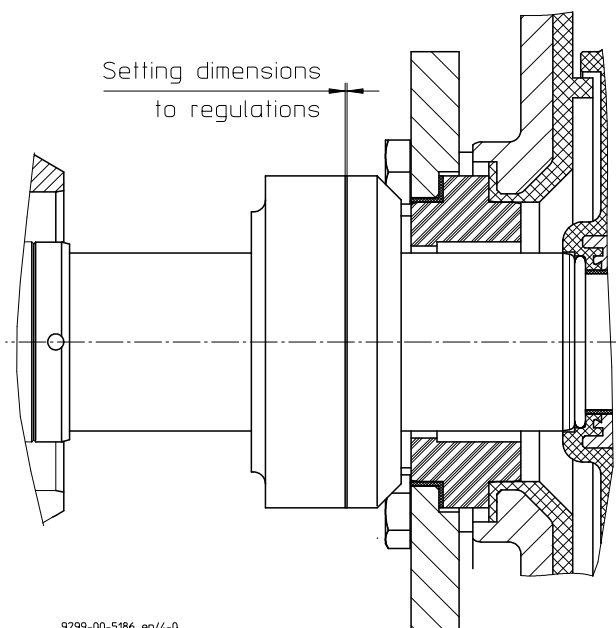

Fig. 1
The wear on the rotary ring can be readily seen by the increased size of the set dimension in many makes. See **Fig. 1**.
- ◆ Prepare rotating unit (observe setting dimension, see fig. 1) and tighten on the protective shaft sleeve.